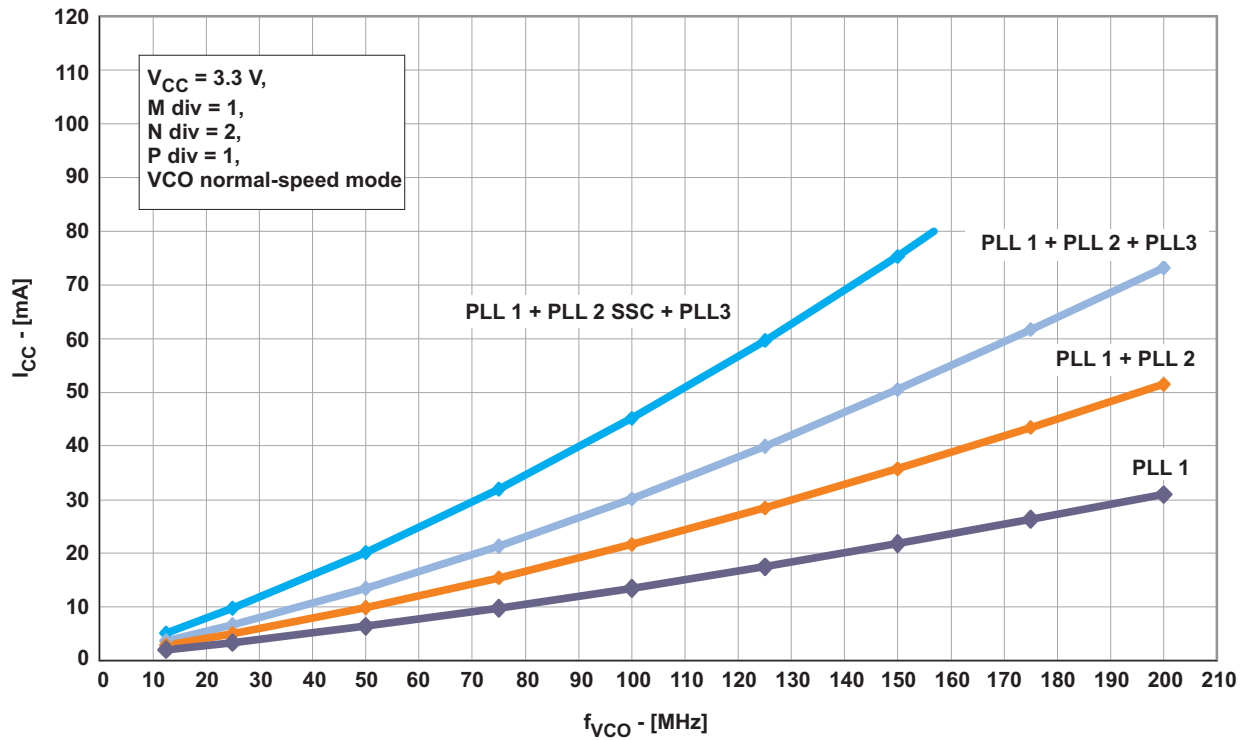
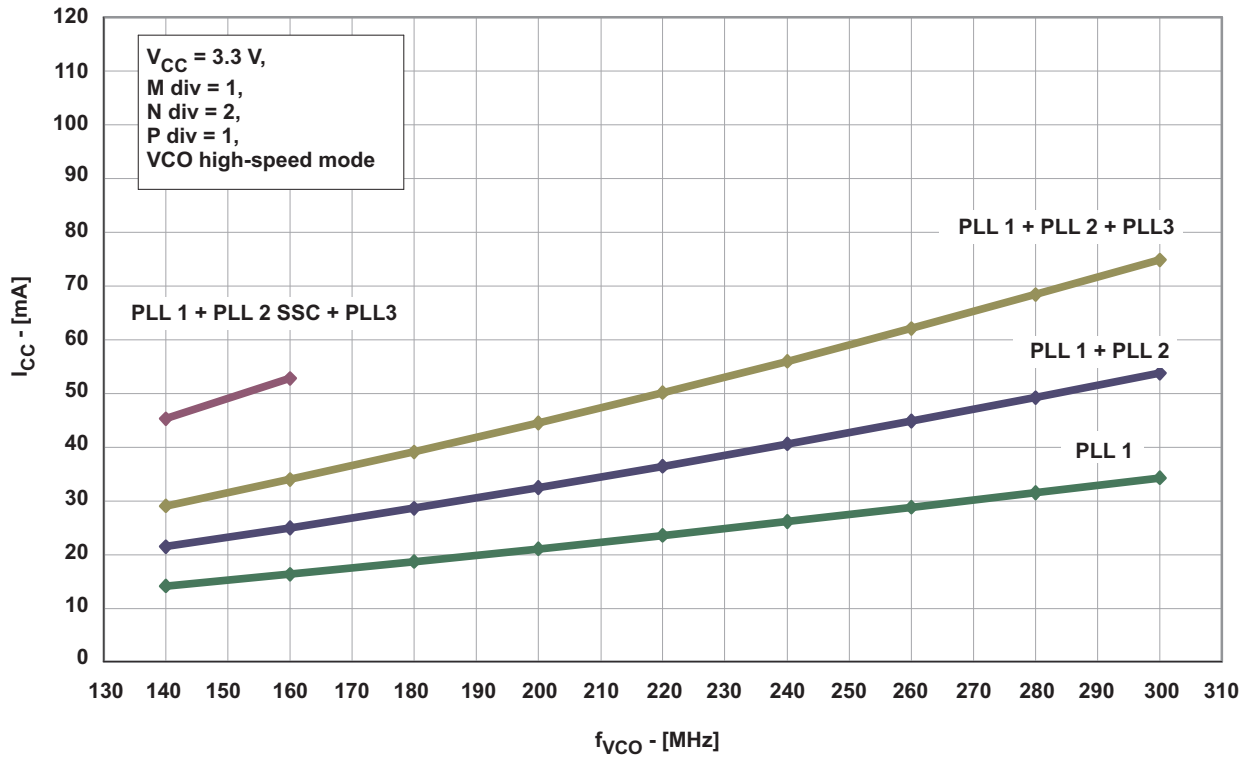
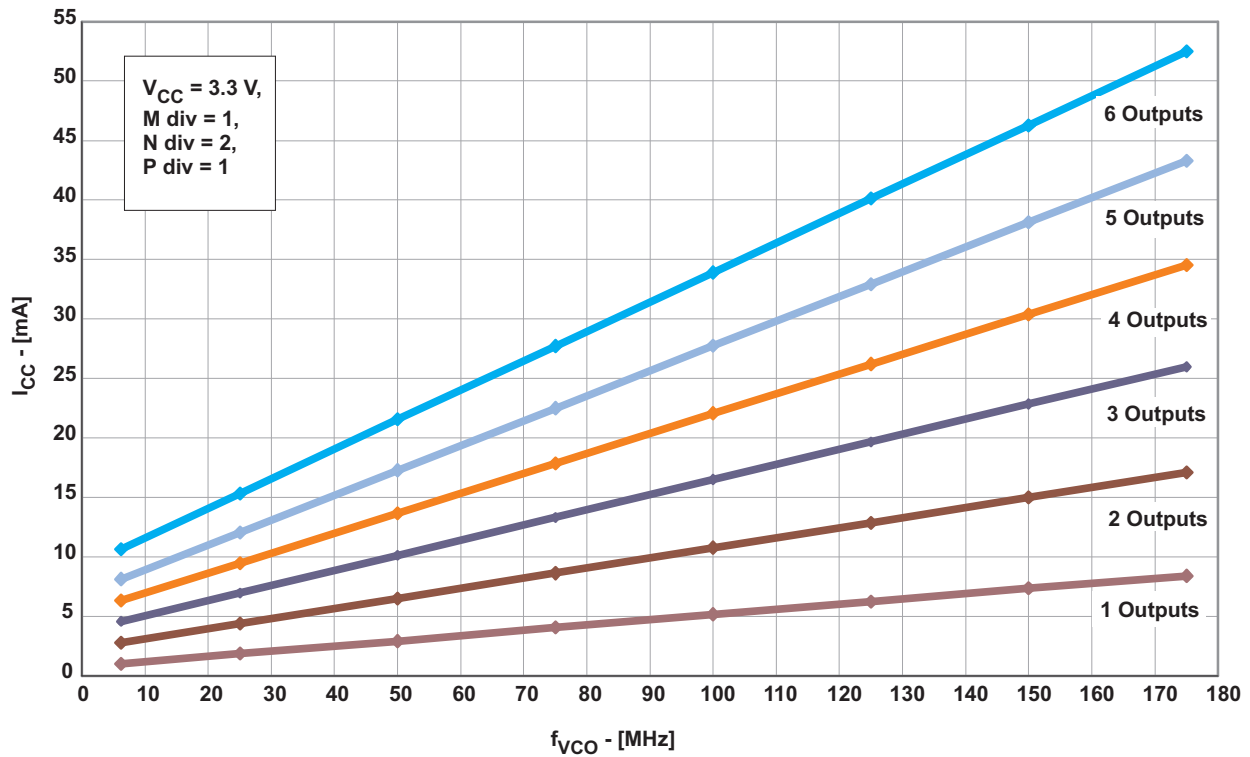
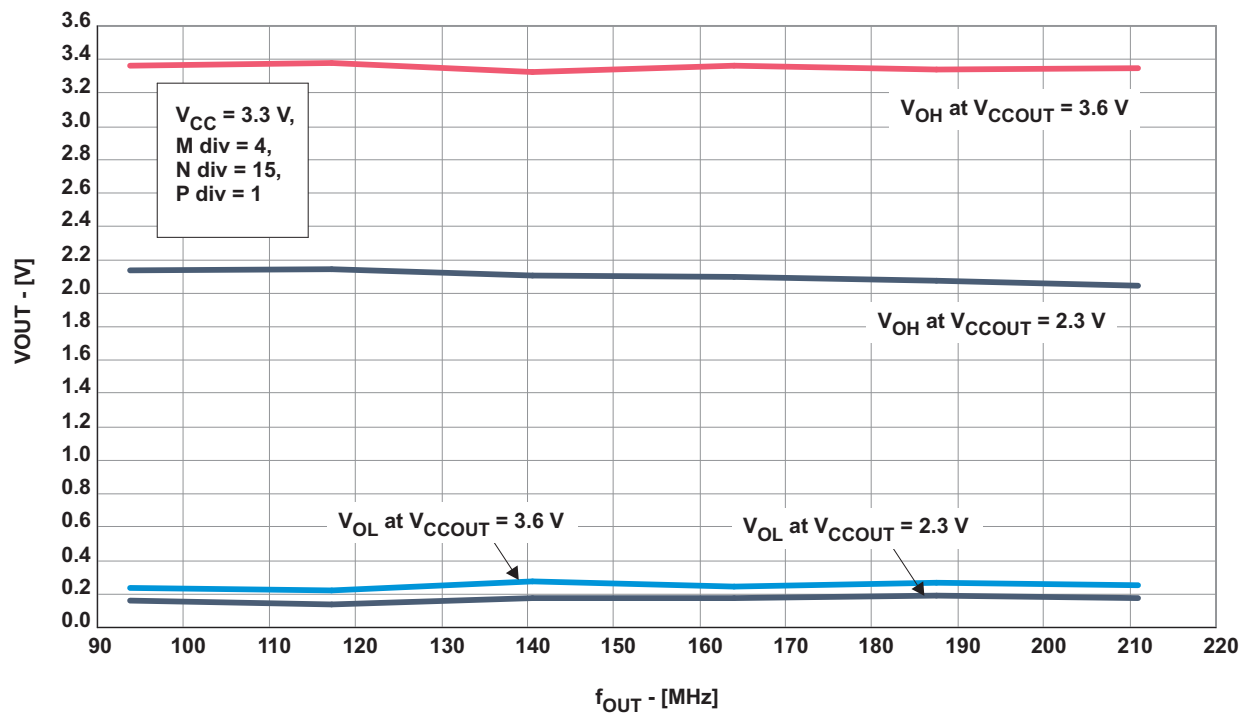

Figure 2. I_{CC} vs Number of PLLs and VCO Frequency (VCO at Normal-Speed Mode, Byte 6 Bit [7:5])
Figure 3. I_{CC} vs Number of PLLs and VCO Frequency (VCO at High-Speed Mode, Byte 6 Bit [7:5])
Figure 4. I_{CCOUT} vs Number of Outputs and VCO Frequency
Figure 5. Output Swing vs Output Frequency
- (1) All typical values are at respective nominal V_{CC} .
- (2) For calculating total supply current, add the current from Figure 2, Figure 3, and Figure 4. Using high-speed mode of the VCO reduces the current consumption significantly. See Figure 3.
- (3) Normal-speed mode or high-speed mode must be selected by the VCO frequency selection bit in Byte 6, Bit [7:5]. The min $f_{(VCO)}$ can be lower but impacts jitter-performance.
- (4) The maximum output frequency may be exceeded, but specifications under the Recommended Operating Condition may change and are no longer assured. Do not exceed the maximum power dissipation of the 20-pin TSSOP package (600 mW at no air flow). See Figure 5.
- (5) 50000 cycles.
- (6) Jitter depends on configuration. Jitter data is for normal t_r/t_f , input frequency = 27 MHz, $f_{(VCO)} = 147$ MHz output.
- (7) The $t_{sk(o)}$ specification is only valid for equal loading of all outputs.